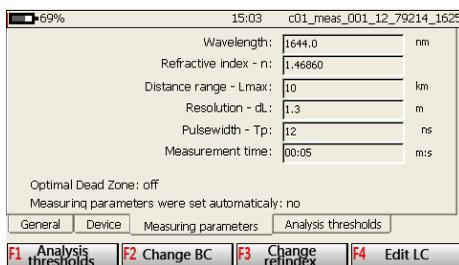

Figure 7.30
7.6.14.4 “Measuring parameters” tab (Figure 7.30).